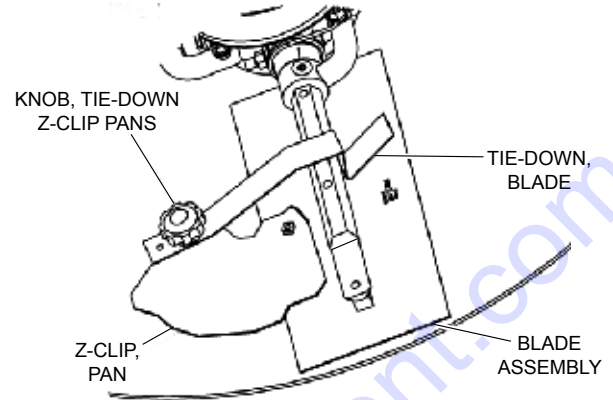

Figure 46. Z-Clip Finisher Pan Installation
3. Attach the blade tie-downs to the far side of the Z-Clip brackets with tie-down knobs as shown in Figure 46.